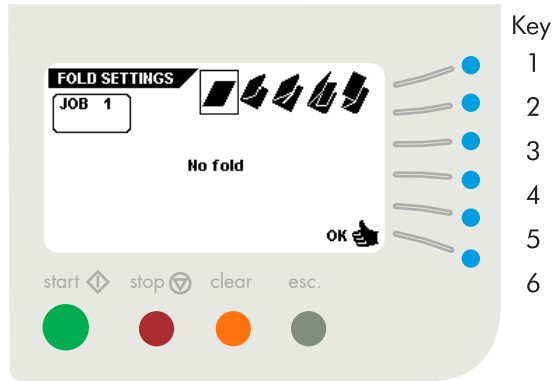

Fig. 43
When the “fold settings” menu is selected and key 3 is pressed in the “job settings” menu, the display shows the screen as shown in Fig. 43. In this menu, the following choices are available by pressing key 1:
When no fold is selected, the display shows the screen as shown in Fig. 43. The following choices are available: